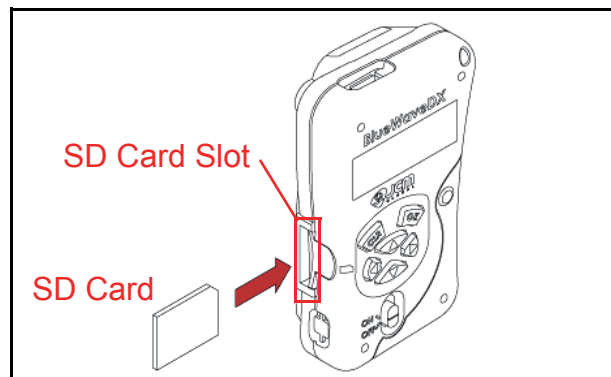

Figure 8 SD Card Insertion (DT-300)
2. Slide the SD Card into the Unit in the direction indicated by the Red Arrow shown in Figure 8 until it “clicks” in place.